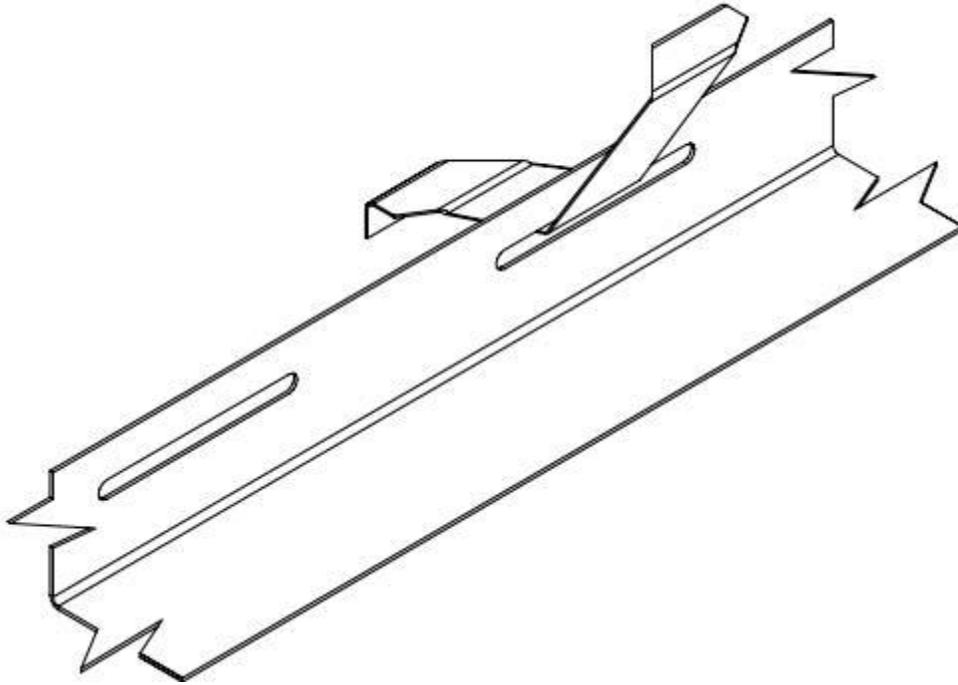

Figure 2. CM 200S Butterfly Clip
- **Attachment of Metal Roof Panels to the Roof Deck:** CM 200S Butterfly Clip (Table 1): The panels are secured to the deck with CM 200S butterfly clips. The butterfly clips consist of a "base" and a "butterfly." Refer to Figure 2 for an illustration of the butterfly clip. The "base" is 18 gauge L-shaped galvanized steel that is 2" wide, 1-3/4" high, and 4-1/2" long. The base has a 1/4" wide by 3" long slot located from the top for the "butterfly." The "butterfly" is 22 gauge galvanized steel that is 5.045" long by 0.929" tall with two return flaps. The "butterfly" is used to secure the metal roofing panel to the "base." Each CM 200S butterfly clip is secured to the roof deck with two minimum No. 10 x 1" long pancake head screws. The fasteners shall be long enough to ensure a